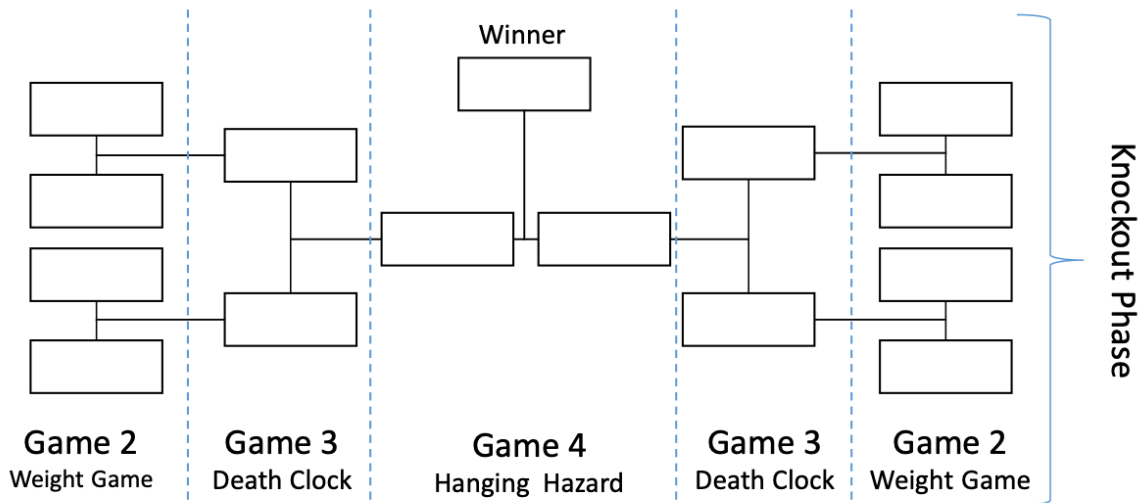

Figure 1 - Illustration for the Knockout phase.
- 9.10. An illustration for the Knockout phase (points 9.7 to 9.9) is presented in Figure 1.